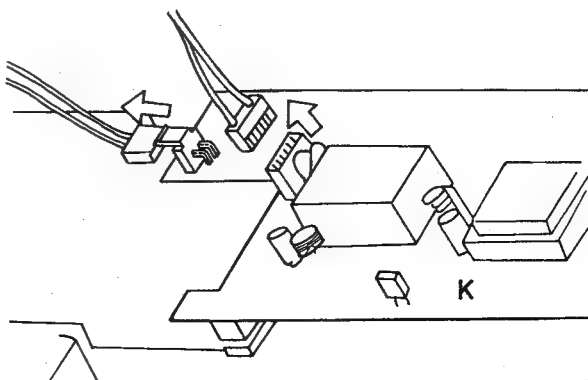
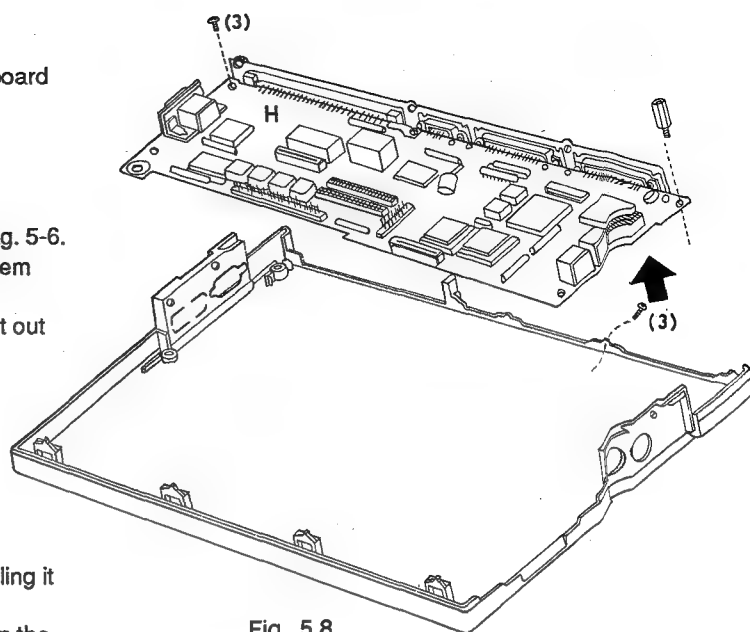

Fig. 5.7
Fig. 5.8
- The powerboard (K) can now be removed by pulling it out in upward direction, see Fig. 5-7.
- Remove two screws (3) and one hex bolt.
- Remove the motherboard by pulling it up, starting on the right side, see Fig. 5-8.